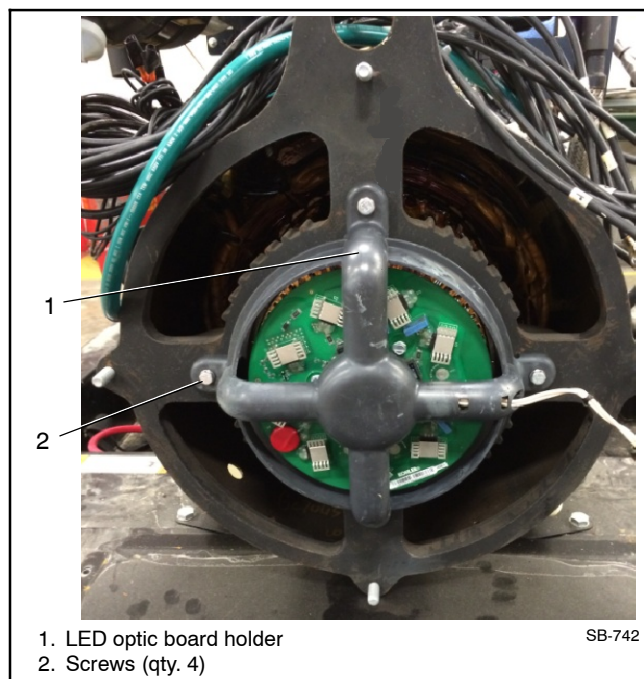

Figure 1 Removing LED Optic Board Holder
- 3.1 Remove the 4 screws and the LED optic board holder. See Figure 1.